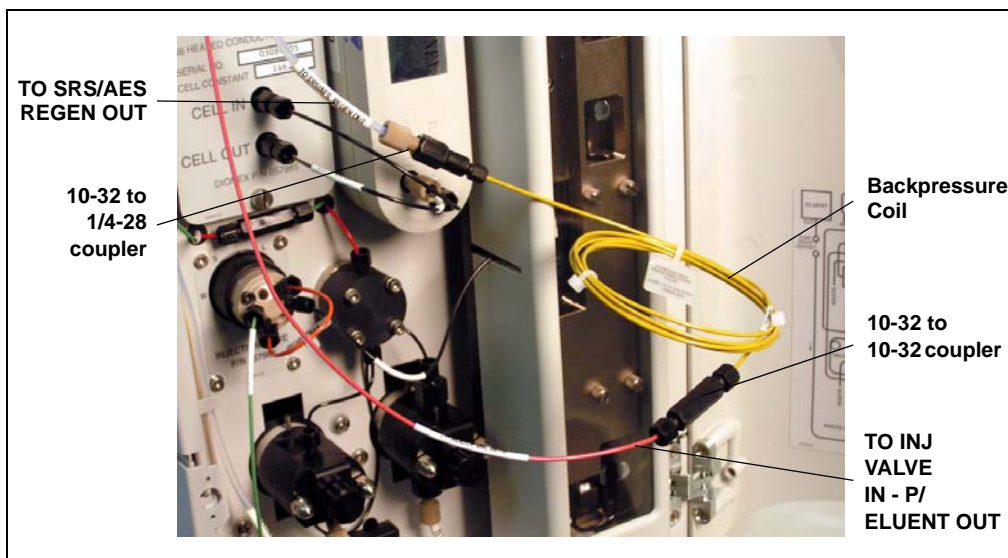

Figure 5-53. Backpressure Coil Connections for Conditioning the EPM with Carbonate/Bicarbonate Eluent
6. Connect the **TO SRS/AES REGEN OUT** line to the 10-32 to 1/4-28 coupler (see Figure 5-53).
NOTE The backpressure coil connection in Figure 5-53 is temporary; it is required only during the conditioning procedure described in the next section.